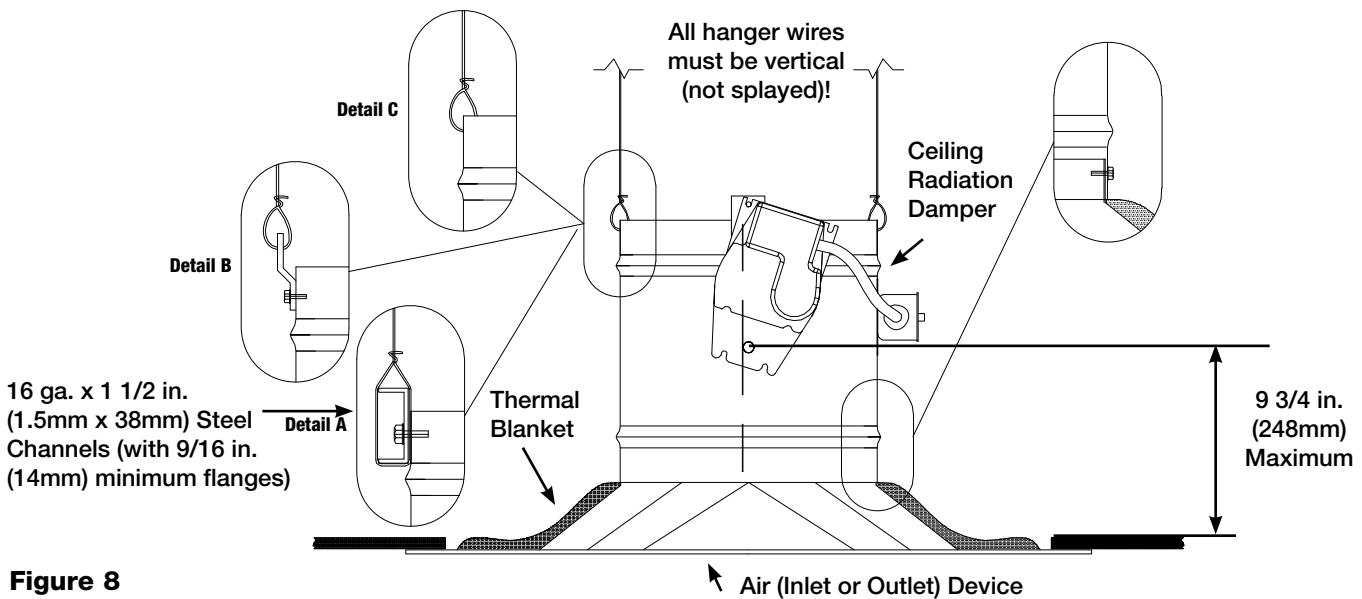

Figure 8
directly to the air device neck and supported by steel channel (See Detail A, Figure 8).
2. Ceiling radiation damper may be connected directly to the air device neck and supported by hanger straps (See Detail B, Figure 8).
3. Ceiling radiation damper may be connected directly to the air device neck and supported by direct suspension with wires looped through holes in the damper frame before tying (See Detail C, Figure 8).
Models CRD-501 may be installed as shown in **Figure 8**.